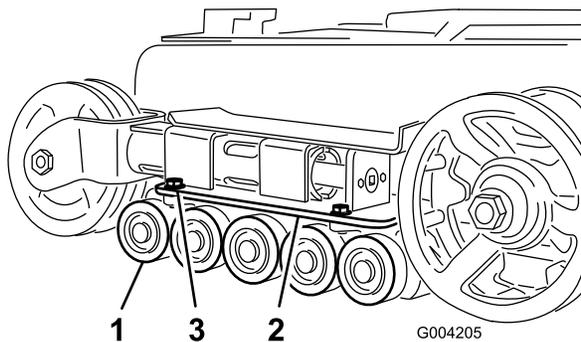

Figure 42
2. Remove the 4 bolts securing each lower track guide which contains the road wheels, and remove them (Figure 42).